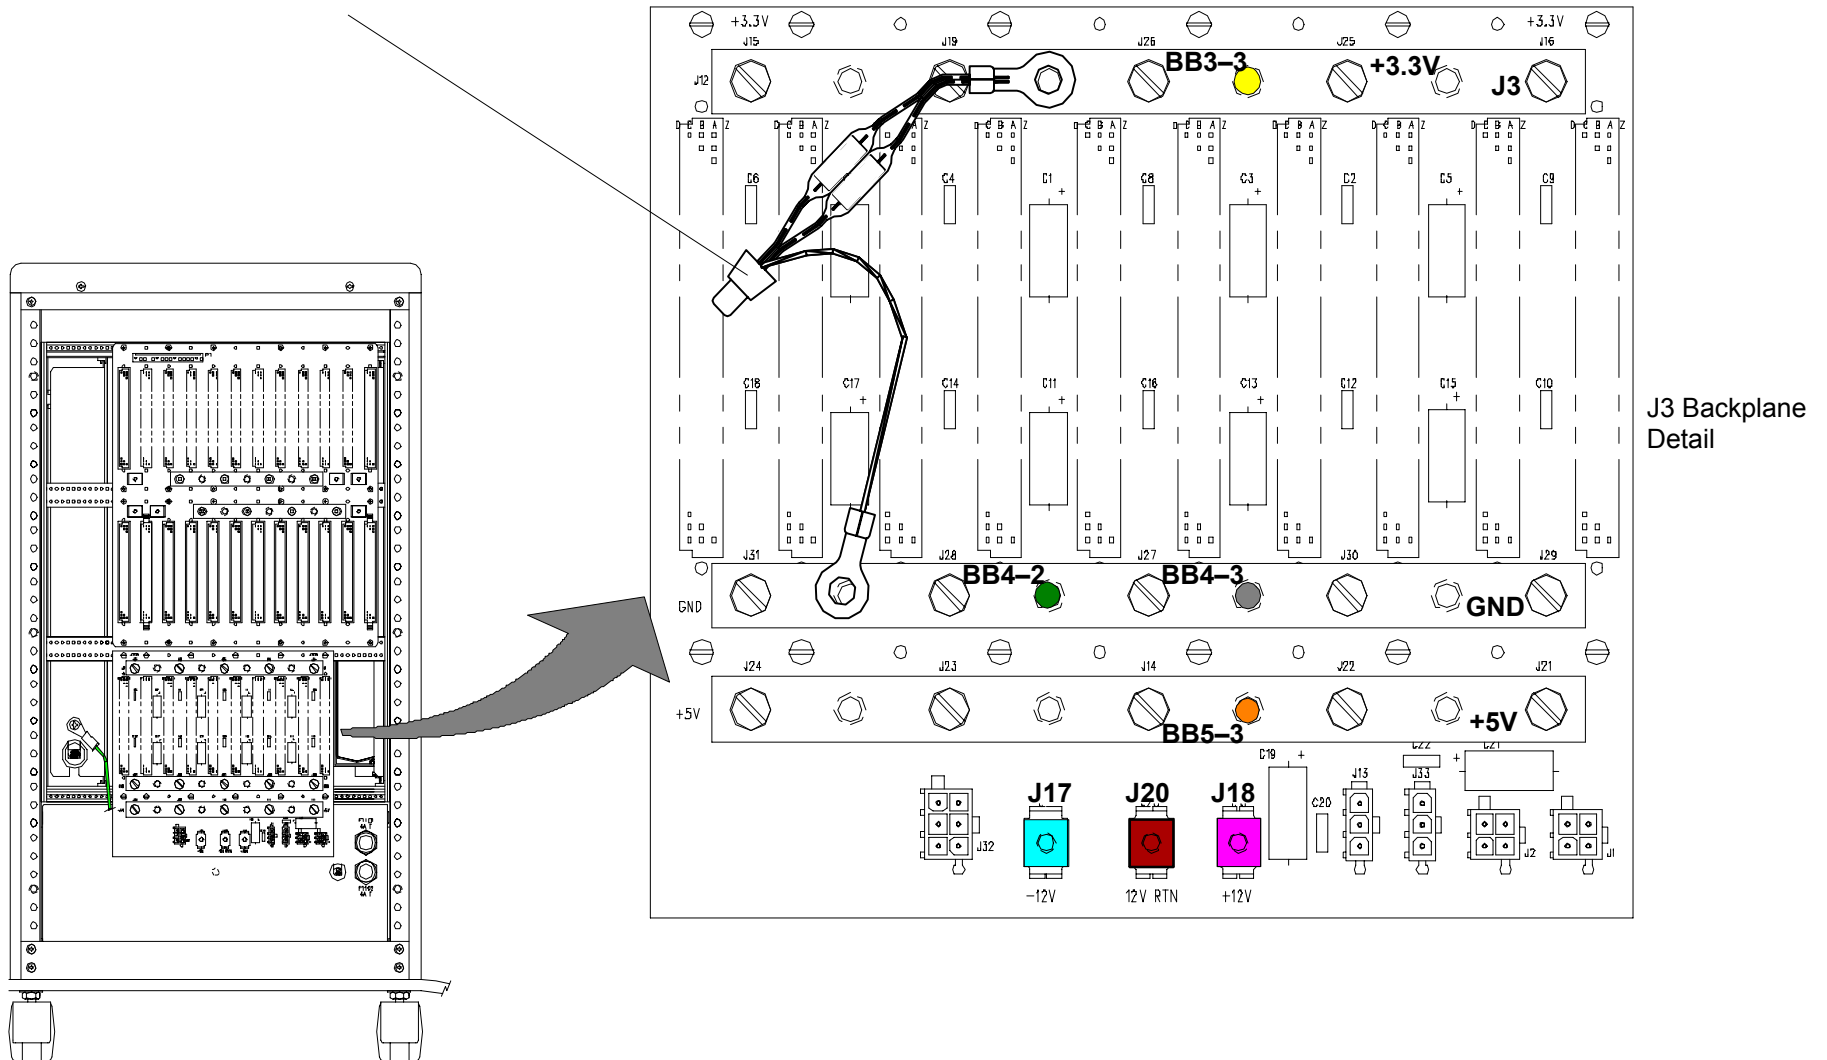

FIGURE 339 RESISTOR ASSEMBLY 178834 INSTALLATION
Therefore, the wires and cabling from the power supply to their destinations must be removed. The new power supply assembly will have the proper wires attached at the supply side. You will have to route the supply wires to their proper destination. Refer to Figure 339 for backplane detail.
2. Disconnect all of the cables from the backplane connections of the power supply assembly. Refer to Figure 339 for backplane detail. Unplug the power cord that leads to the AC Chassis plug J1107.
2. If replacing old power supply assembly 178221, install the resistor assembly 178834 on backplane as shown in Figure 339. Resistor assembly 178834 is already installed if power supply assemblies 178826 or 362402 are being replaced.
3. Install cable L22679 on the backplane as follows (refer to Figure 339 for backplane detail):